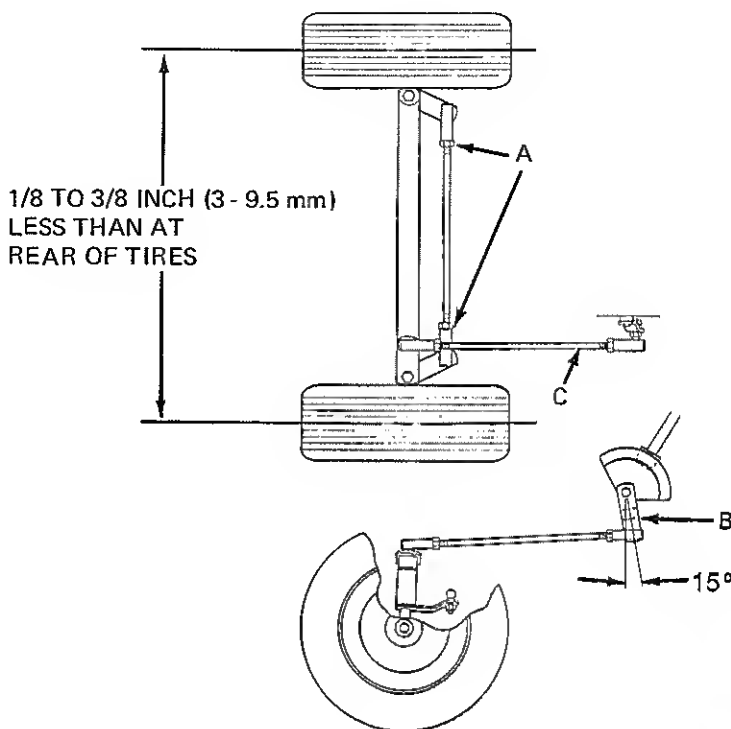
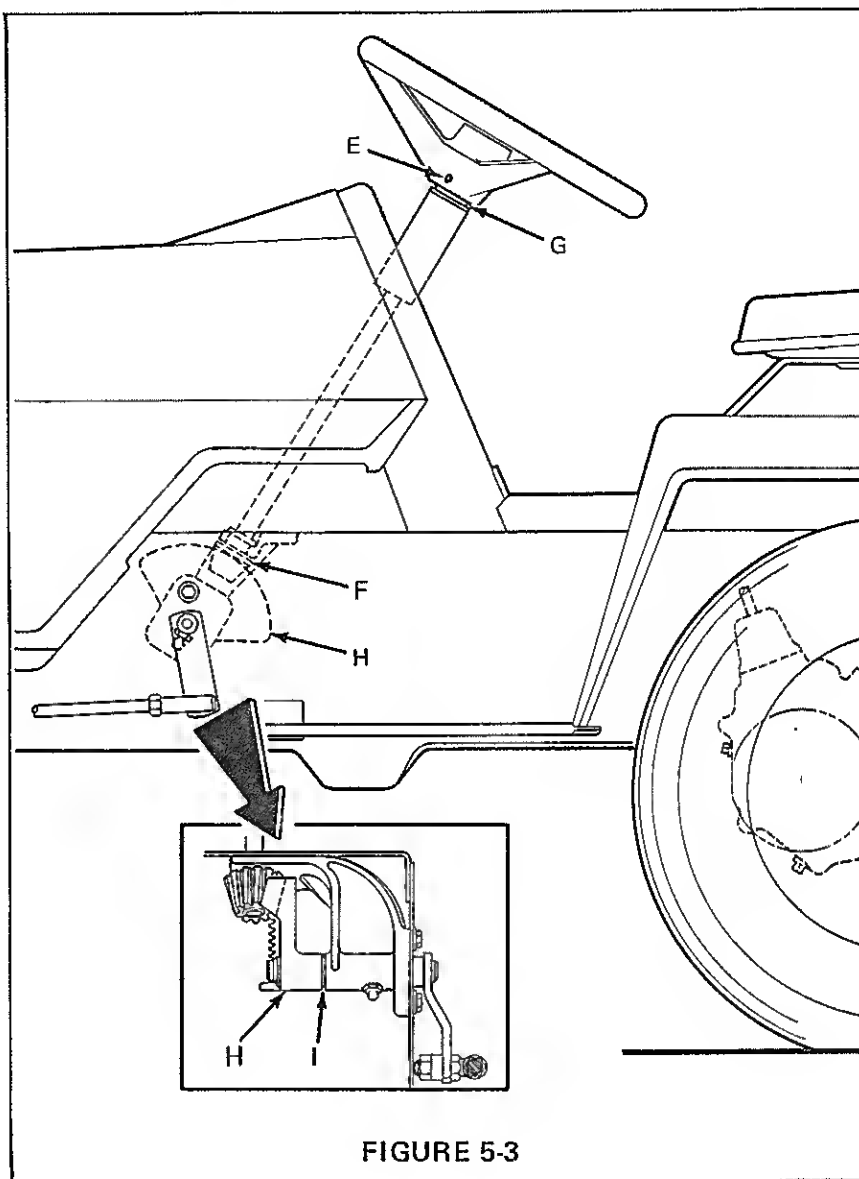

FIGURE 5-1
FIGURE 5-3
2. Disassemble the steering wheel by removing roll pin (E), Figure 5-3 and washer.
1. With flange bushing (F) slid onto the pinion shaft assembly, route it through the casting and through the steering column bearing. Slide on any needed shims at point (G) and secure the steering wheel with the roll pin (E) removed earlier.
2. With the steering wheel emblem right side up position steering gear (H) in steering casting.
3. With the steering arm pointed about 10° to the rear, (See Figures 5-1 and 5-3), slide it through the steering casting, and reinstall the shims removed earlier and steering gear (H) Figures 5-3.